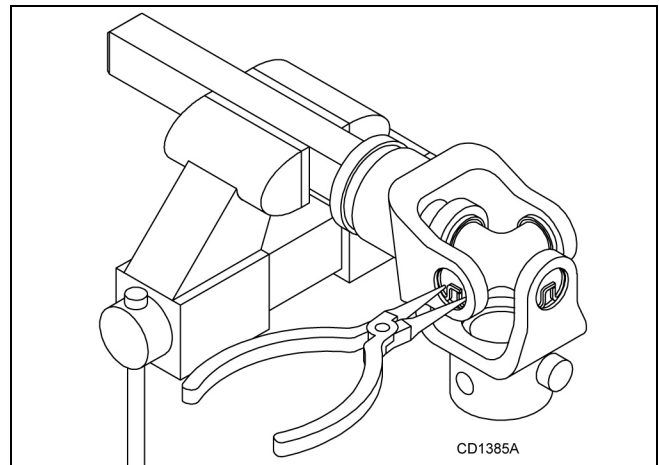

Figure 21. Remove Snap Ring
1. Remove external snap rings from yokes in four locations as shown in Figure 21.